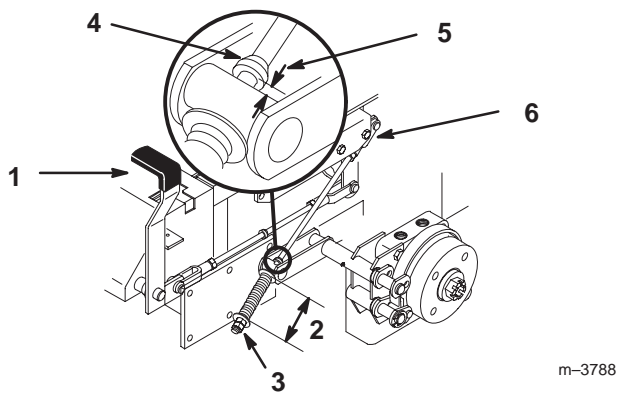

Figure 59
2. Measure the length of the spring. Measurement should be 2.75" (70 mm) between washers (Fig. 59).
3. If adjustment is necessary, loosen the jam nut below the spring and tighten the nut directly below the yoke (Fig. 59). Turn the nut until the correct measurement is obtained. Tighten the two nuts together and repeat on opposite side of unit.
6. Measure the distance between the trunnion roller and the collar on brake rod . Measurement should be $3/16''-1/4''$ (5–7 mm) (Fig. 59).
7. If adjustment is necessary, loosen the jam nut directly below the yoke. Turn the bottom rod until the correct measurement is obtained (Fig. 59). Tighten jam nut at yoke